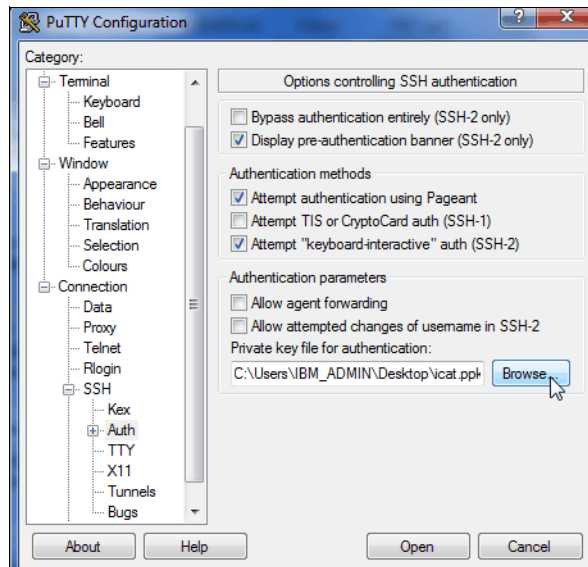

Figure A-12 SSH authentication
- From the Category pane on the left side of the PuTTY Configuration window, click **Connection** → **SSH** → **Auth**. As shown in Figure A-12, in the right pane, in the “Private key file for authentication:” field under the Authentication Parameters section, either browse to or type the fully qualified directory path and file name of the SSH client private key file created earlier (for example, C:\Support Utilis\Putty\icat.ppk).